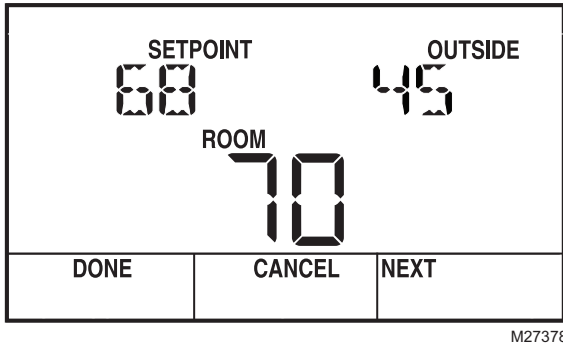

Fig. 30. Sample Contractor display showing Home screen setup.
- When the contractor clicks the SET HOME SCREEN softkey, The display changes as shown in Fig. 30, and the softkeys change to DONE, CANCEL, and NEXT.